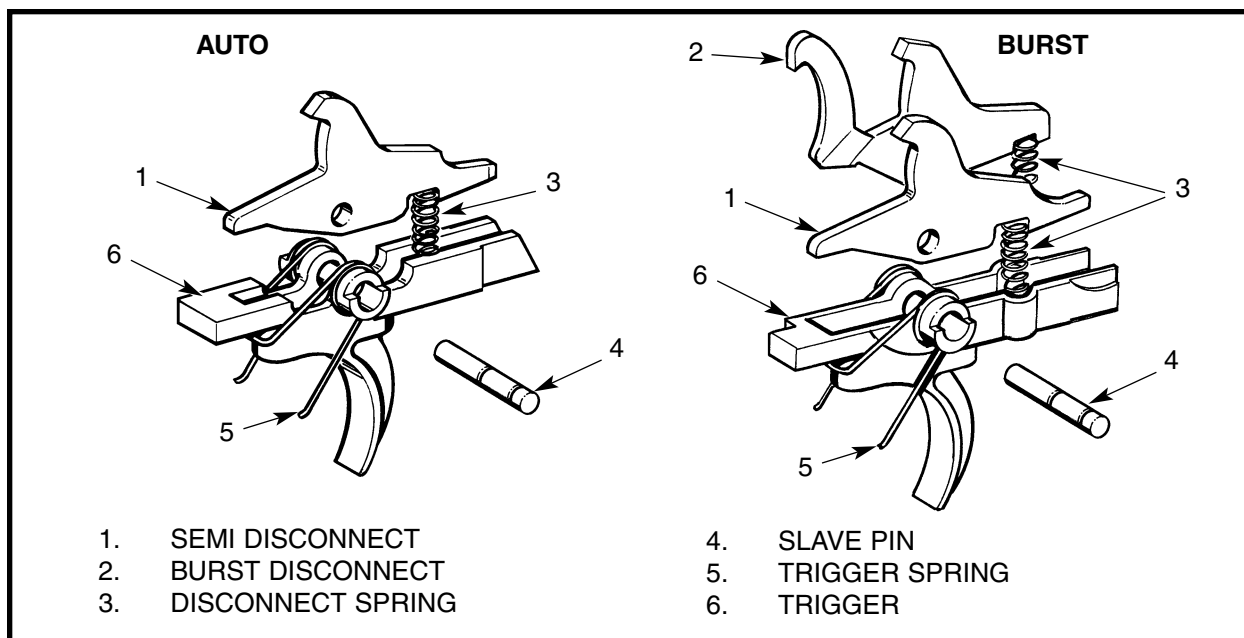

Figure 3-2-48 Disassembling the Trigger Mechanism
- (2) Remove the trigger mechanism, which is now held together by the slave pin, from the lower receiver; and
- (3) To disassemble the auto trigger mechanism, see Figure 3-2-48 and proceed as follows:
- (i) Apply downward pressure on the semi disconnect (1) to take control of the disconnect spring (3);
- (ii) Remove the slave pin (2) and release pressure on the disconnect;
(4) To disassemble the burst trigger mechanism, see Figure 3-2-48 and proceed as follows: